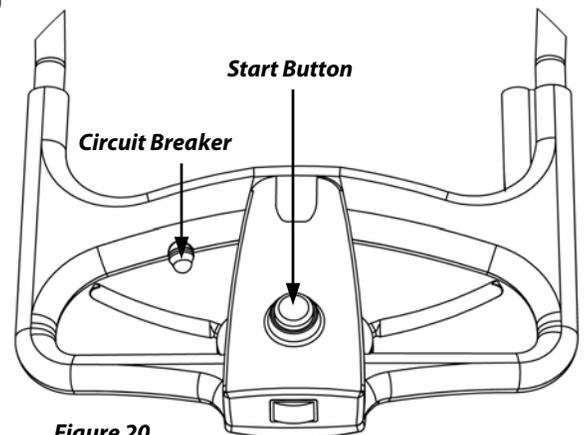

Figure 20
- Depress the orange Start Button (**Figure 20**).
- Make sure the black Circuit Breaker Button on the Handlebar is depressed (**Figure 20**).
- Did you follow the two (2)-step Start sequence: depress the orange Start Button, then squeeze and hold the Control Lever(s)?